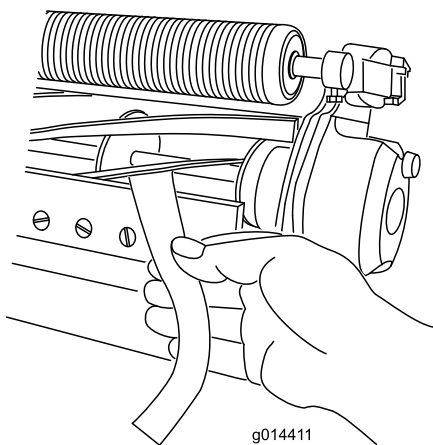

Figure 5
3. At one end of the reel, insert a long strip of newspaper between the reel and bedknife (Figure 5). While slowly rotating the reel forward, turn the bedbar adjusting screw clockwise (on same end of reel, one click at a time, until the paper is pinched lightly, when inserted from the front, parallel to the bedknife. You should notice a slight drag as you pull the paper.
5. After the adjustment is accomplished, check to see if the reel can pinch paper when inserted from the front and cut the paper when inserted at a right angle to the bedknife (Figure 5).